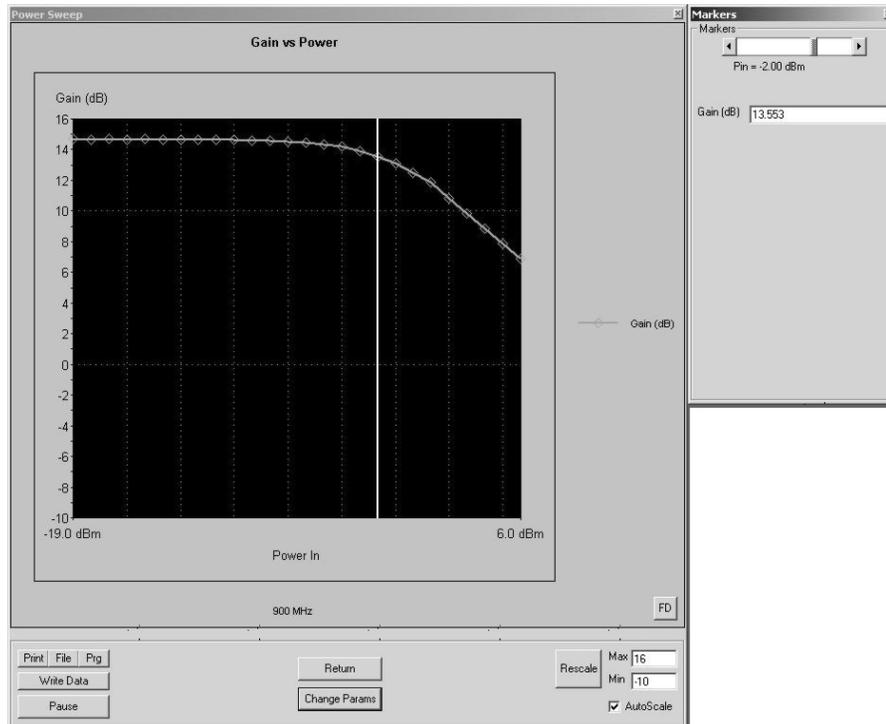

Figure 5-7. Single Frequency Power Sweep Test, Gain vs. Power In
- **Select Start Test:** Observe that the test screen (Figure 5-7) appears.